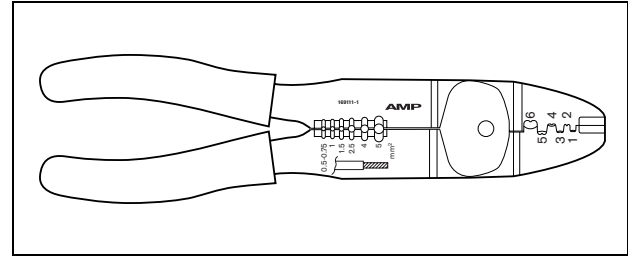

figure 21.14: Tyco AMP 169111-1 pliers
- Tyco AMP 169111-1 pliers (see figure 21.14)